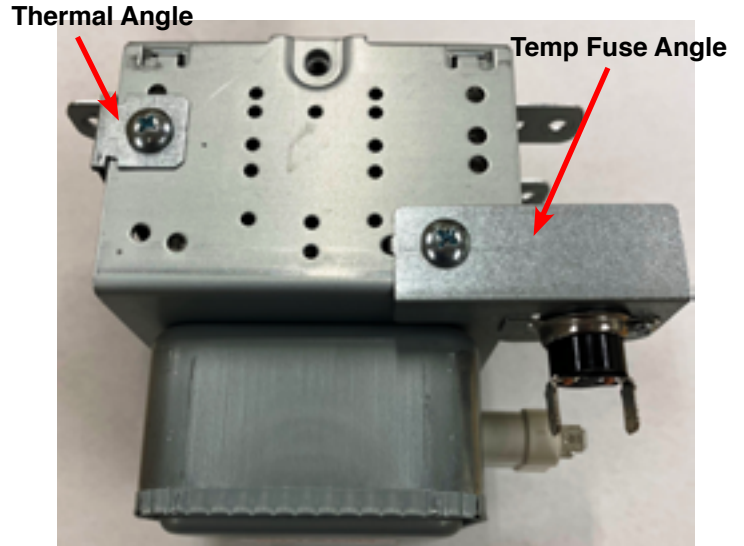

Fig. M-2
4. Remove the Temp Fuse and Thermal Angle (**Fig. M-2**).